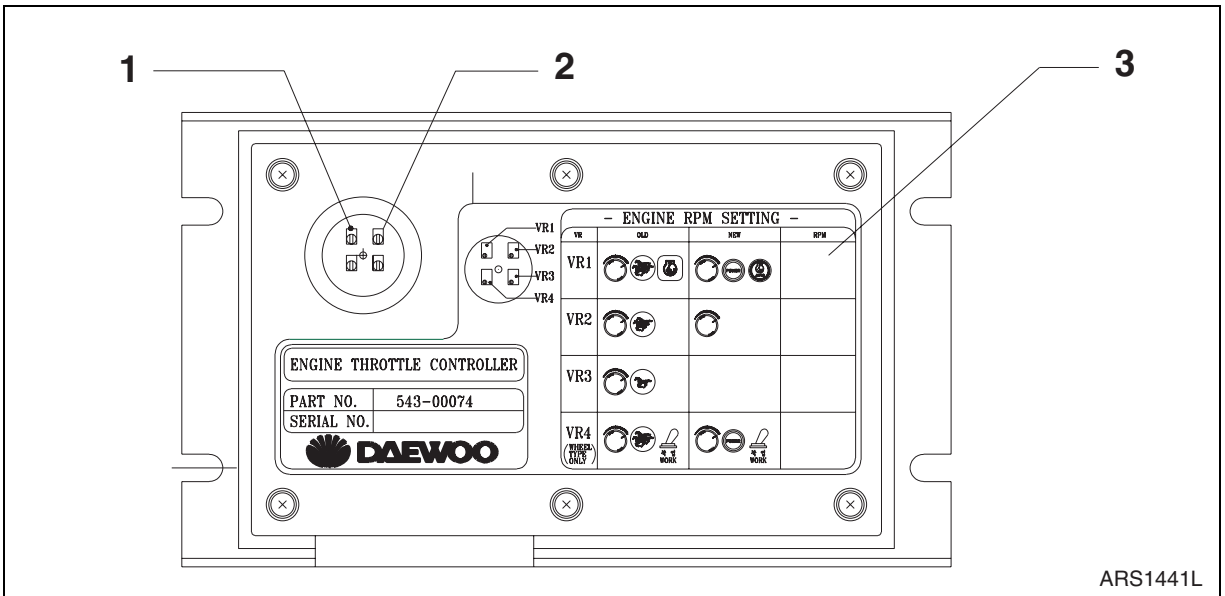

Figure 64
- C. Adjust engine speed by slowly turning variable resistor screw "VR1." (See Figure 64.)
- C. Adjust engine speed by slowly turning variable resistor screw "VR2." (See Figure 64.)